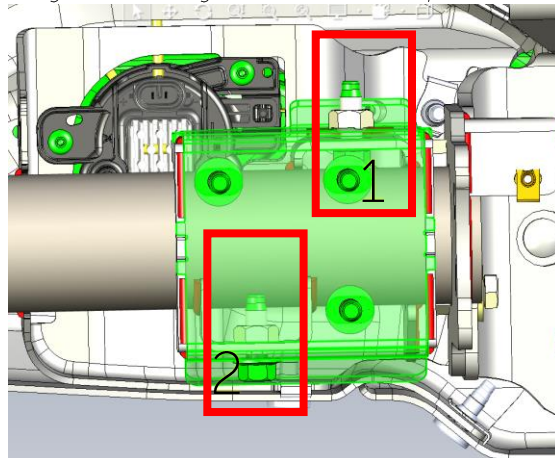

Figure 4 – Backside AEV Frame Bracket w/ Bolts
- b. Loosely install [2] M10 Bolts (11588738) with M15 Socket per side – Fig. 4